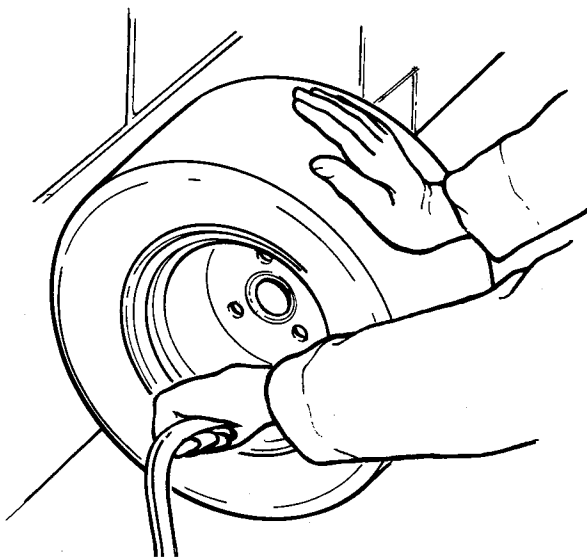

Figure 2-1 – Tire Removal and Installation
TIRES (Figure 2-1)
- With valve stem side up, carefully start upper bead over edge of wheel rim with tire tool, Step II, Figure 2-1, Page 2-2.
- When top bead is free of rim, shift lower bead into rim well on one side of wheel and insert tire tool on opposite side. Pry lower bead over rim flange, Step III, Figure 2-1, Page 2-2.
- f. Place tire upright against wall and push against tire on side opposite wall, Figure 2-1. This three point contact will tend to bring bead out in contact with rim so that internal pressure is formed and beads snap into place when air is applied through valve stem.